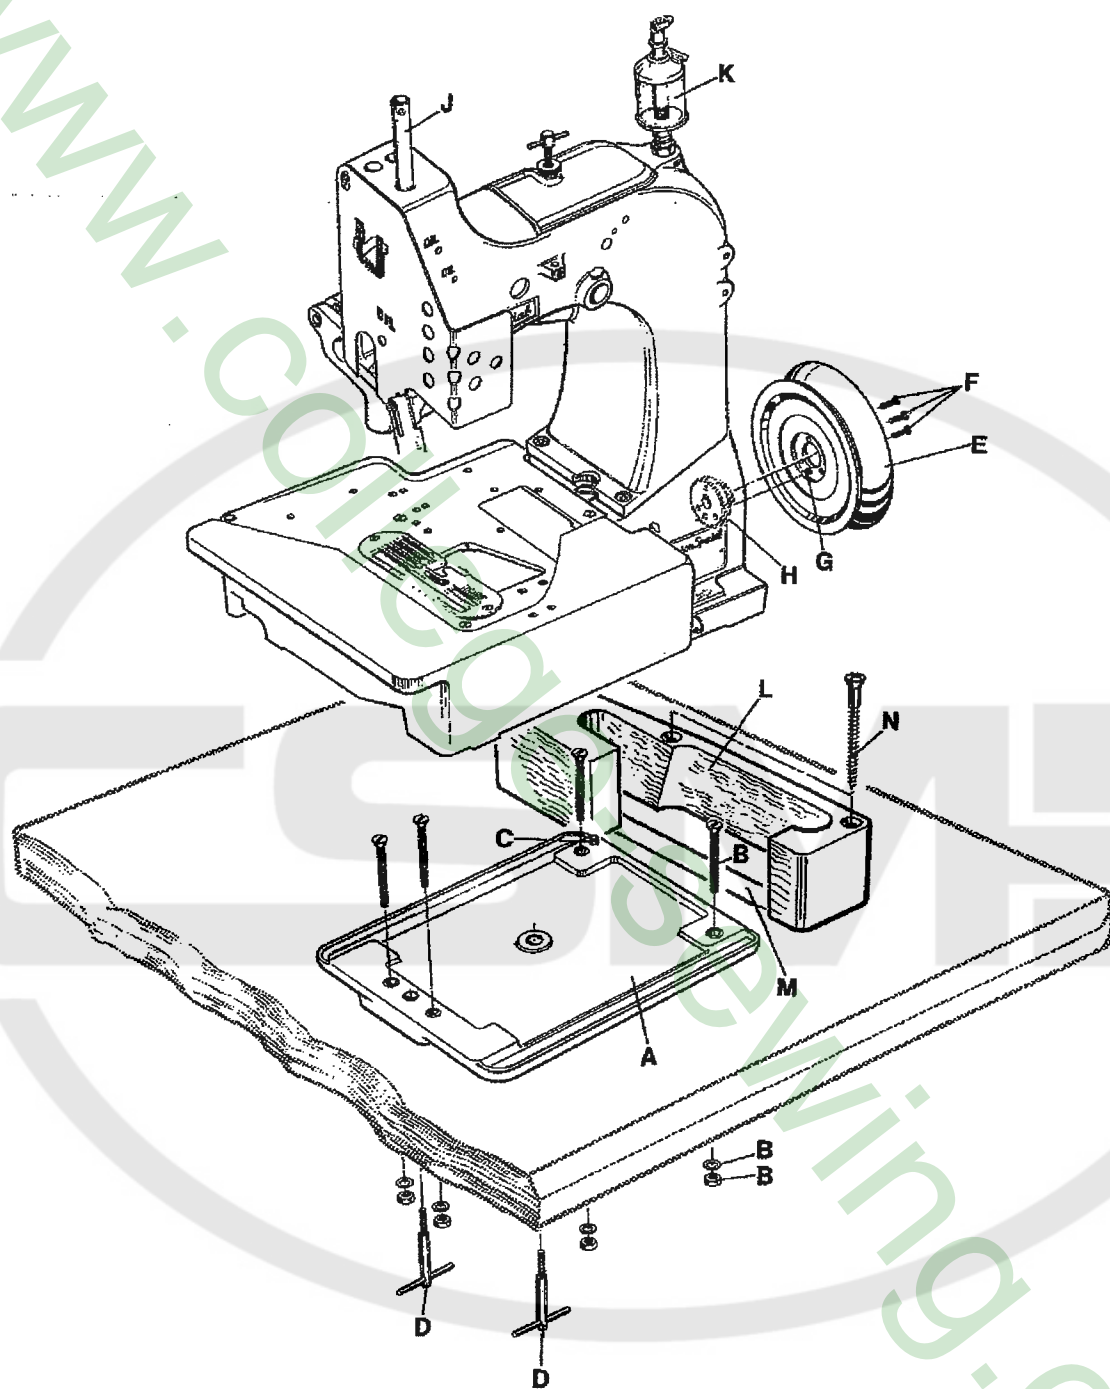

Fig 6
2. Mount the base plate (A, Fig. 6) with four screws, nuts and washers (B) in the provided holes on the table board.
3. Place the sewing machine on the base plate so that the roll pin (C) in the base plate engages with the right rear hole in the machine base.
4. Fasten the sewing machine with the two T-screws (D) on the base plate.
6. Assemble the handwheel pulley (E) with three countersunk screws (F) to the sewing machine. Pin (G) must engage with the hole in hub (H).
7. Screw in needle bar guard (J).
8. Screw in sight feed roller (K).
9. Align the handwheel belt guard (L) with the V-belt slot (M) in the table board and with the handwheel pulley and fasten it with two wood screws (N) on the table board.